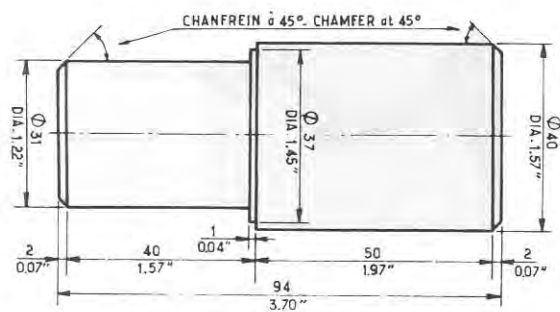

Fig. 3
- 3) Fit the new bushes, using the tool (see Fig. 3).